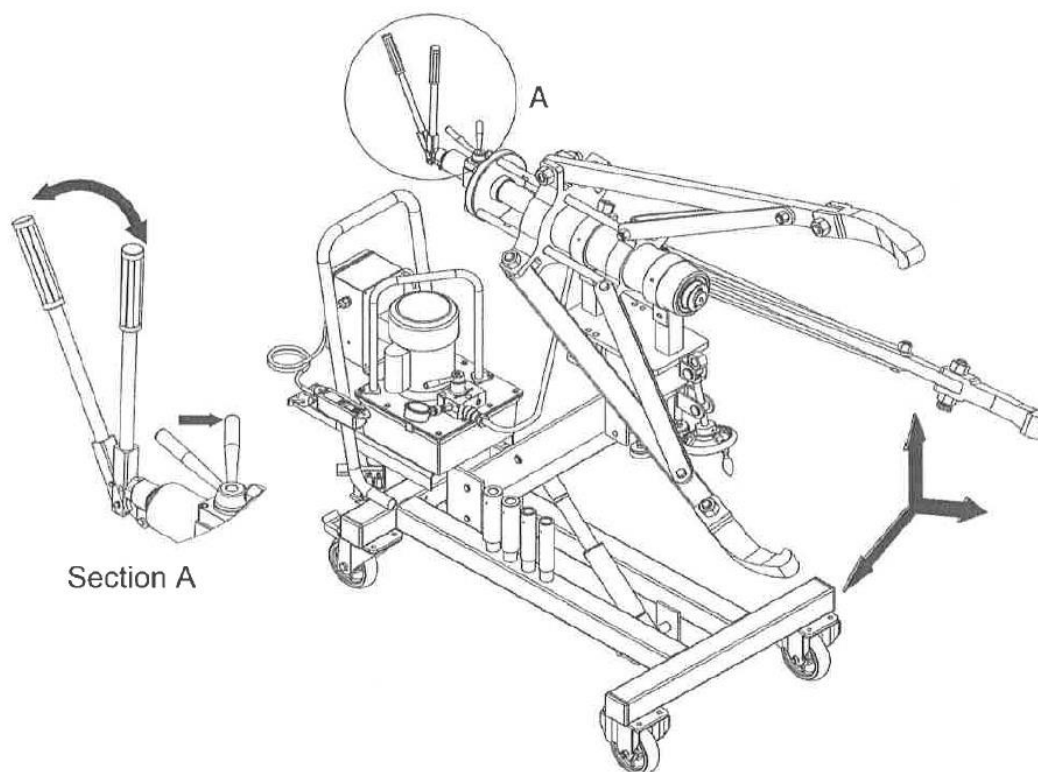

Figure 2 – Adjusting the Puller Arms
5.3.1 Rotate the control valve on the pump in a clockwise direction and pump the handle to open the jaws enough to fit over the work (see Figure 2).